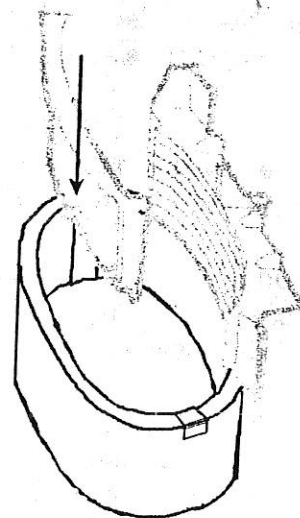

figure 5
8. Replace the left liner and clips. (**figure 5**) and the right liner if you had to remove it. Replace keyplate and lift handle. Turn in any screws that were backed out.